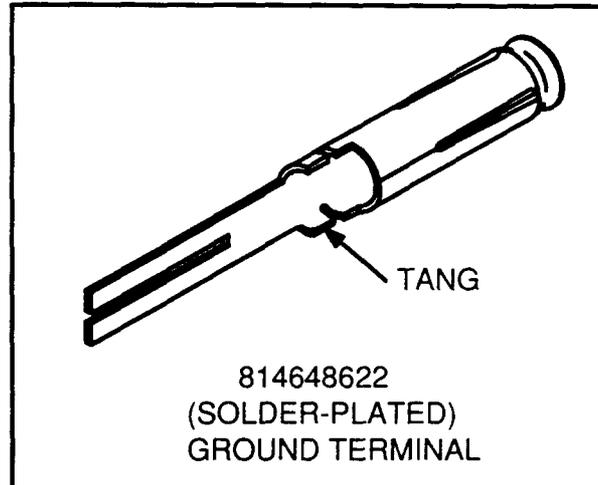

Figure 35. Ground Terminal
8.15 To replace a ground terminal (Figure 35), proceed as follows: